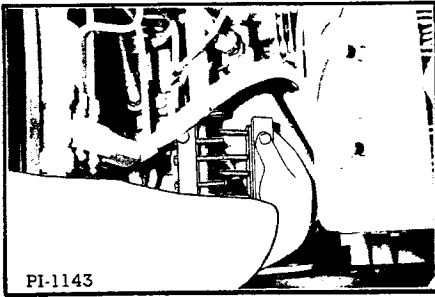

Fig. 41 Removing Split Jackshaft
7. Remove the split jackshaft connector (Figure 41). The connector must be replaced in the same position as it was before removal.
3. Reinstall the split jackshaft connector, matched ends together (Figure 41). Four screw heads should be up and four down. Tighten the screws down evenly.